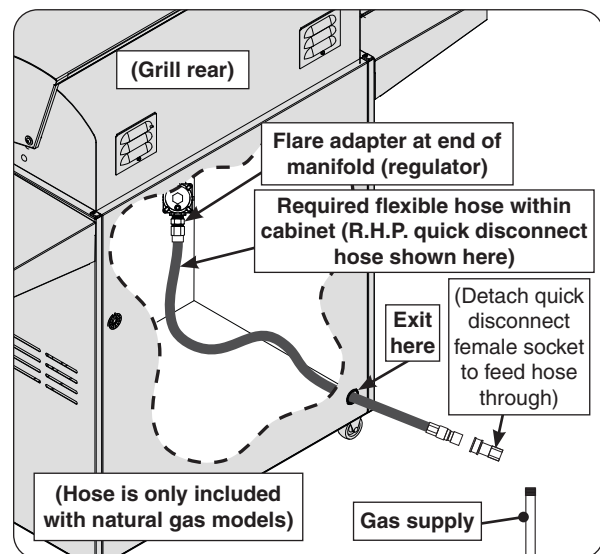

Fig. 17-2 Connecting to a gas line
2. **Household propane only:** A regulator hose assembly designed for L.P. cylinders comes pre-installed to the unit valve manifold. First remove this assembly from the flare adapter (at end of manifold), and then install a quick disconnect hose or similar (purchased separately) to the adapter. (An R.H.P. quick disconnect hose is recommended - see third bullet above.) Use a pipe joint compound resistant to all gasses on all NPT pipe fittings except flare fittings. Reference Fig. 17-2. Then proceed to step 3.
3. Route the quick disconnect hose (or similar) out of the hole in the rear bottom right of the cabinet, and to the gas supply (see Fig. 17-2).